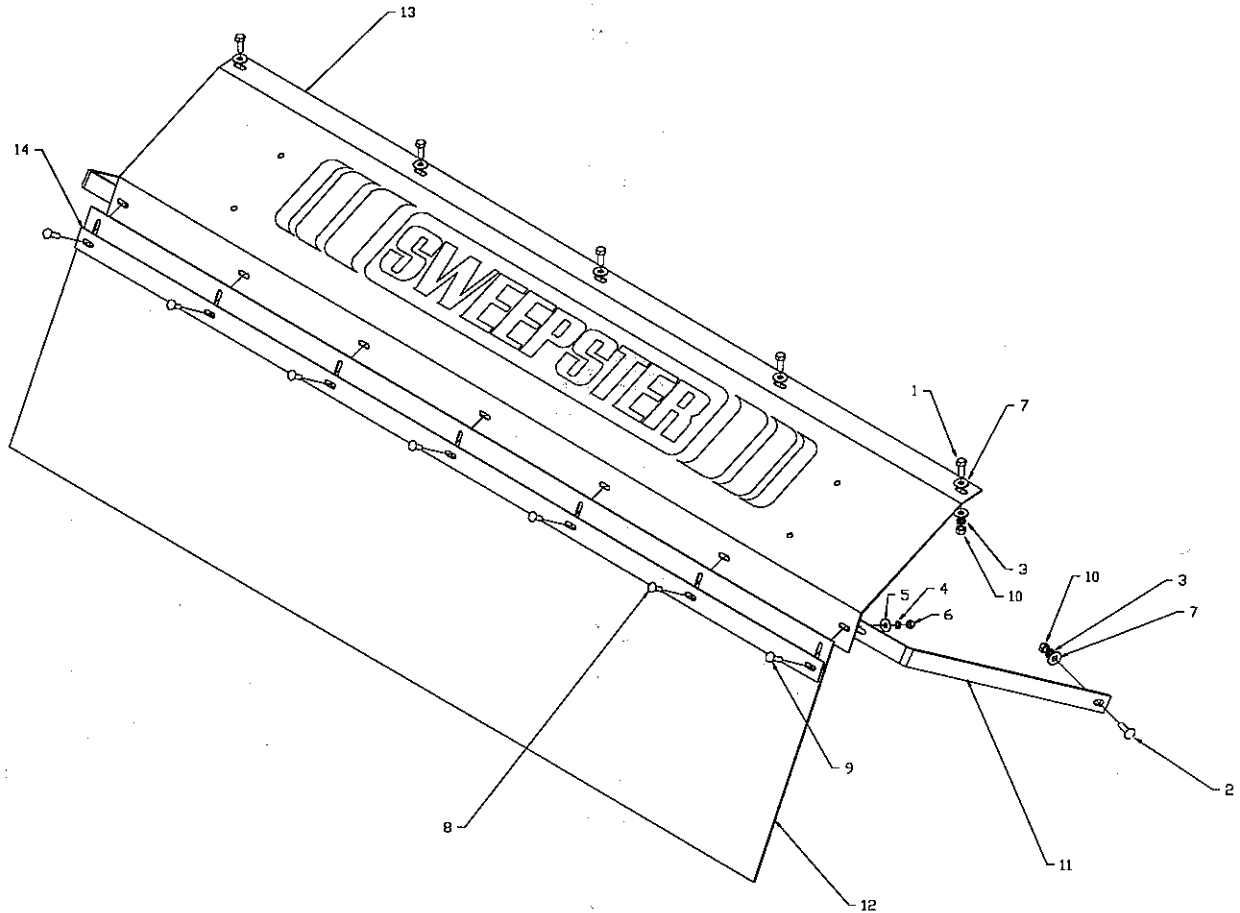

figure 47
5. Attach the flap and arms to the outer slots using 2 5/16 x 1 1/4 in. carriage bolts, flat washers, lock washers and nuts (figure 47).